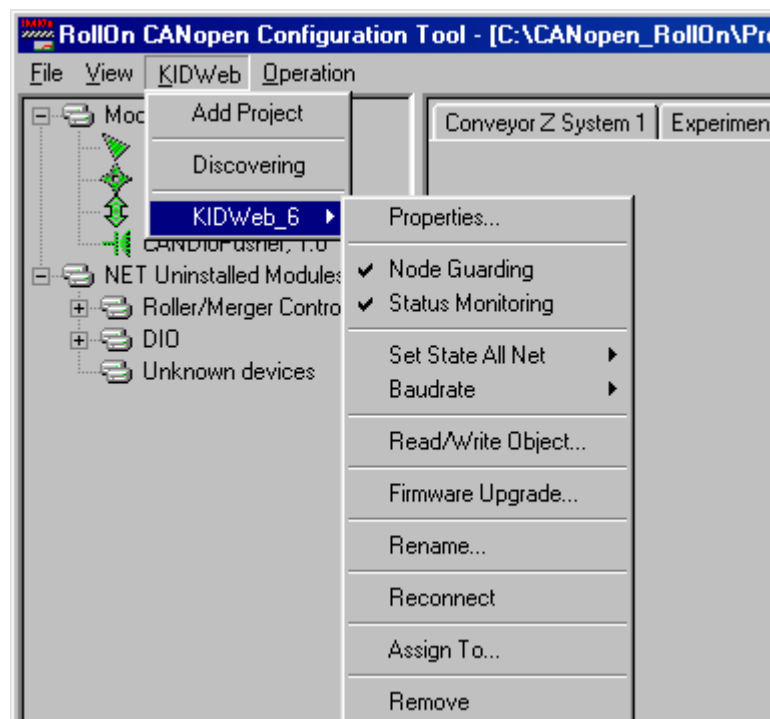

Fig. 5.3
- Approach the respective item (in our case KIDWeb_6) to open the selection drop-down box shown in Fig. 5.3.